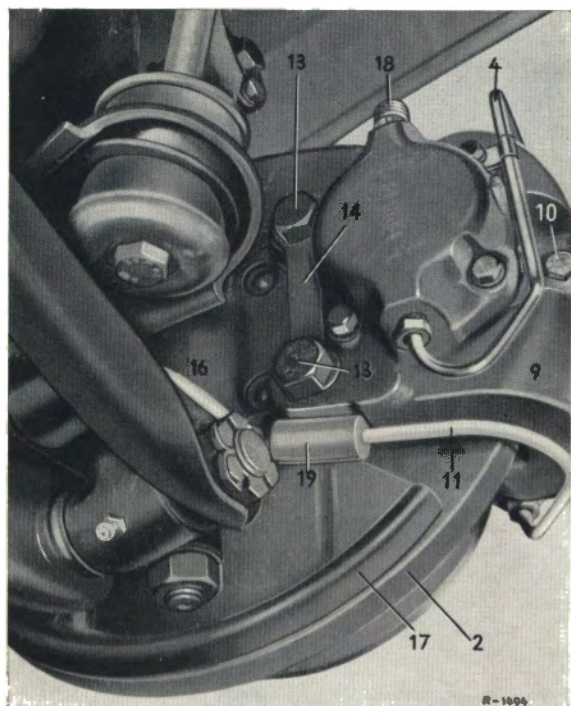

Fig. 42-7/8
- a) The brake caliper must be installed parallel to the brake disk. The distance between caliper and brake disk (aperture a) measured on the inner side of the brake disk must not differ between top and bottom measurements by more than the amount given in Job No. 42-0 (Figs. 42-7/11 to 42-7/14).